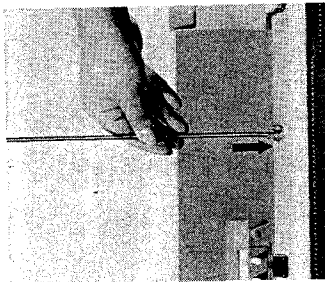

Fig. 11
- e. Fit the end of the rod into the stand hole at the centre of the knitter with rear yarn guide away from you. (See Fig 11)